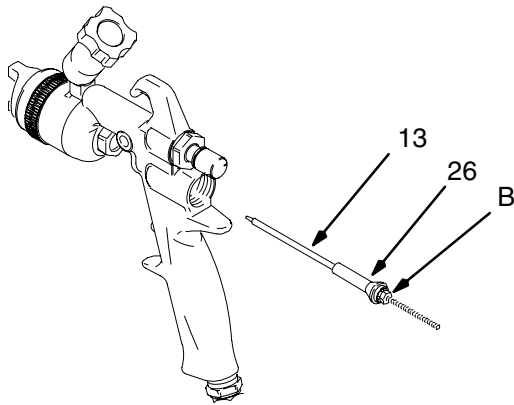

Fig. 29
2. Tighten the hex nut (9) onto the adapter (4) hand-tight, then loosen the nut about one turn so the adapter (4) and spray housing sit loosely in the gun body.
3. Check the fluid needle (13) for damage or excessive wear. Replace needle tip or entire needle if necessary. If replacing needle tip, use low strength thread locker on needle tip threads.
4. Lubricate the outside of the new air valve assembly (26) and place it on the fluid needle (13), against the nut (B). See Fig. 29. This helps align the entrance of the air valve stem into the inside diameter of the u-cup (16) without damaging the u-cup lip.
5. Install the fluid needle (13) and the air valve assembly (26) into the back of the gun.